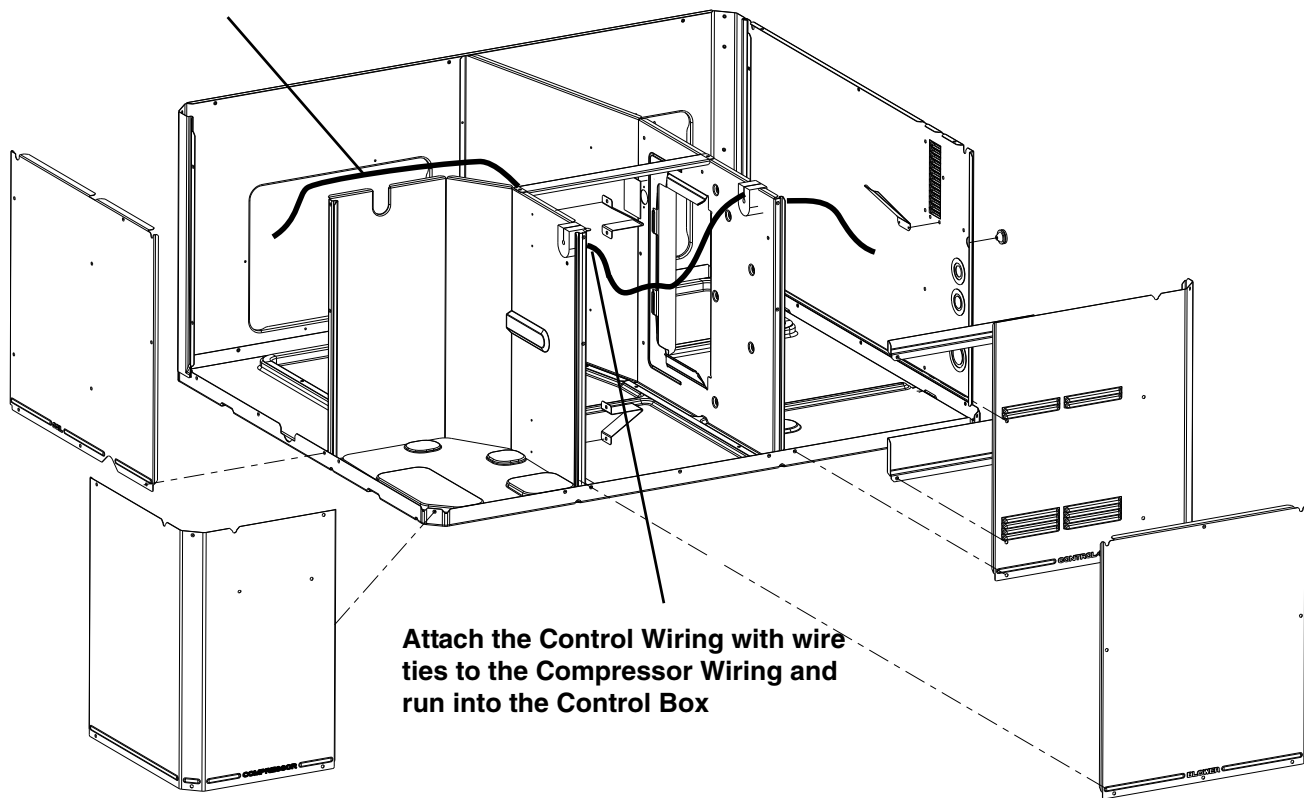

Figure 6. Route wiring
5. Wire per the wiring diagram (see Figure 5) to prevent shorting. Route all wiring from the damper assembly through the indoor coils flashing grommet. Dress the wiring with the supplied wire ties to prevent wiring from interfering with any system component or sheet metal edges. See Figure 6, page 4.